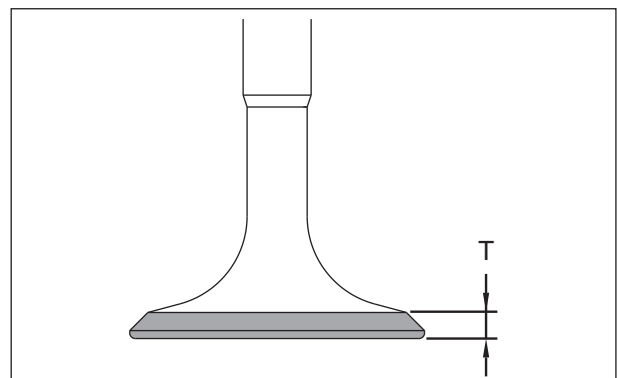

Fig. 3.66
- Measure the thickness of valve head. If the thickness is less than the service limit, replace the valve with a new one. (Fig. 3.66)